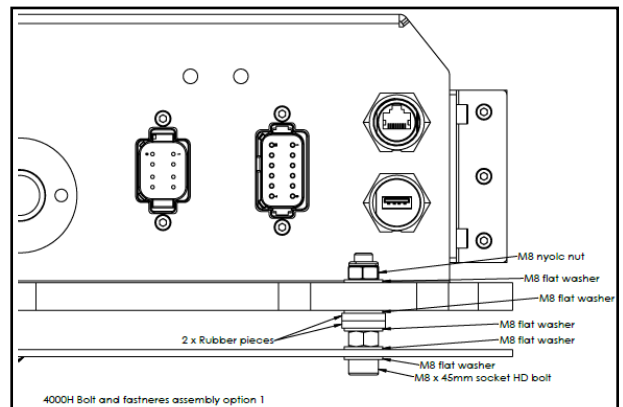

Figure 2.5. NIR Spectrometer Bolt and washer stack.
- 4) Install the 4 X M8 supplied bolts so that the threads are facing outwards and secure with the provide washers and plain nuts as shown in Figure 2.5.